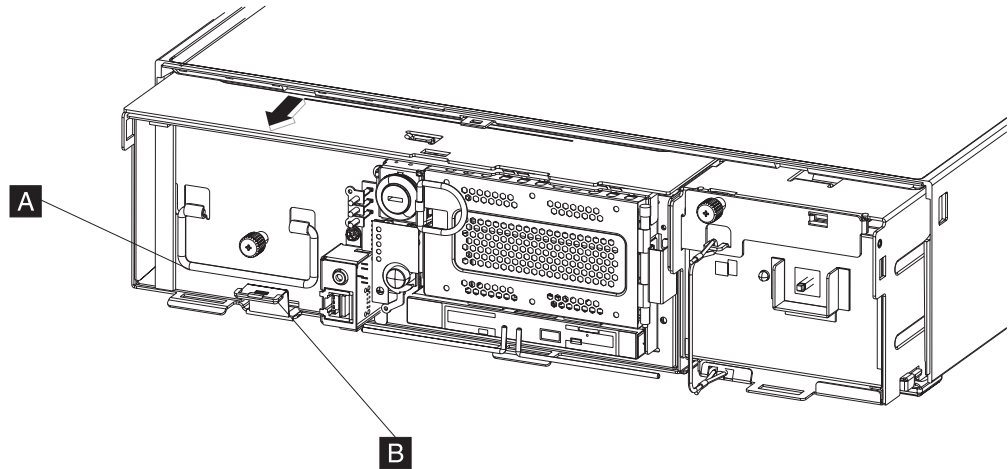

Figure 40. Removing the pullout tray from the unit frame
4. While holding the unit frame in place, grab the pullout tray handle ( **A** in Figure 40), use your thumb to lift the pullout tray lock tab ( **B** ), and pull firmly. The pullout tray will slide out of the unit frame completely.